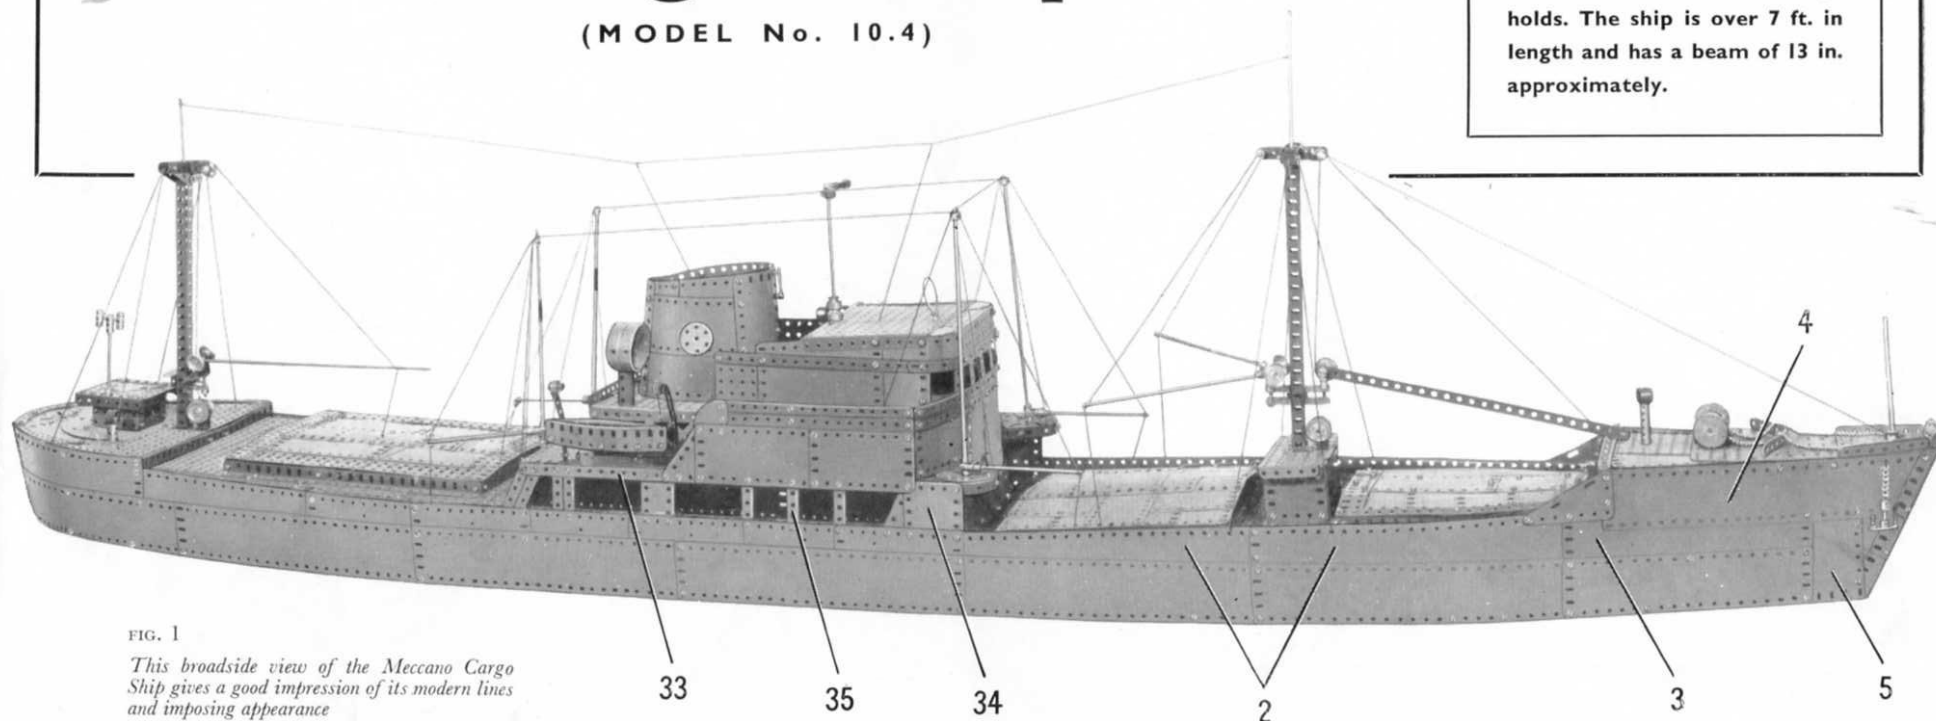

FIG. 1
Constructional Details: The Hull (Figs. 1, 3, 4 and 5)
extended upward by six $5\frac{1}{2}'' \times 1\frac{1}{2}''$ Flexible Plates, and towards the bow two $12\frac{1}{2}'' \times 2\frac{1}{2}''$ Strip Plates (2) are fixed at a slight angle (Fig. 1), and are extended forward by a $9\frac{1}{2}'' \times 2\frac{1}{2}''$ Strip Plate (3). A further $12\frac{1}{2}'' \times 2\frac{1}{2}''$ Strip Plate (4) and a $3\frac{1}{2}'' \times 2''$ Triangular Flexible Plate are fixed to the Plates 2 and 3 as shown. A $5\frac{1}{2}'' \times 2\frac{1}{2}''$ Flexible Plate (5) is bolted vertically to the front ends of the $9\frac{1}{2}'' \times 2\frac{1}{2}''$ Strip Plates.
A strip (33) (Fig. 1) on each side is made up from a $12\frac{1}{2}$ " and a $7\frac{1}{2}$ " Strip. It is then bolted to a $2\frac{1}{2}$ " \times $2\frac{1}{2}$ " Flexible Plate (34), edged at the front by a 3" Strip and at the rear by a $2\frac{1}{2}$ " \times $1\frac{1}{2}$ " Triangular Flexible Plate. It is also bolted to two $2\frac{1}{2}$ " Strips and a $5\frac{1}{2}$ " Strip (35), to a $2\frac{1}{2}$ " \times $1\frac{1}{2}$ " Flexible Plate, to two $2\frac{1}{2}$ " Strips placed together and to two 3" Strips arranged at a slight angle (Fig. 1).